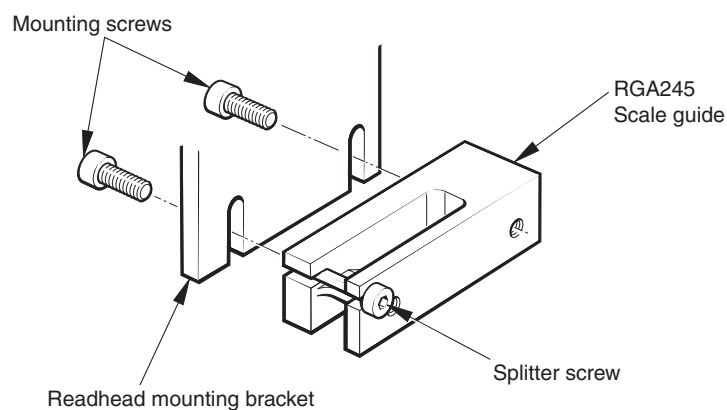

Figure 1
- ▶ Mount the scale guide to the readhead bracket as shown in Figure 1.
- ▶ Remove the splitter screw (see figure 1) from the scale guide body by turning until the flats on the screw are parallel to the slot.